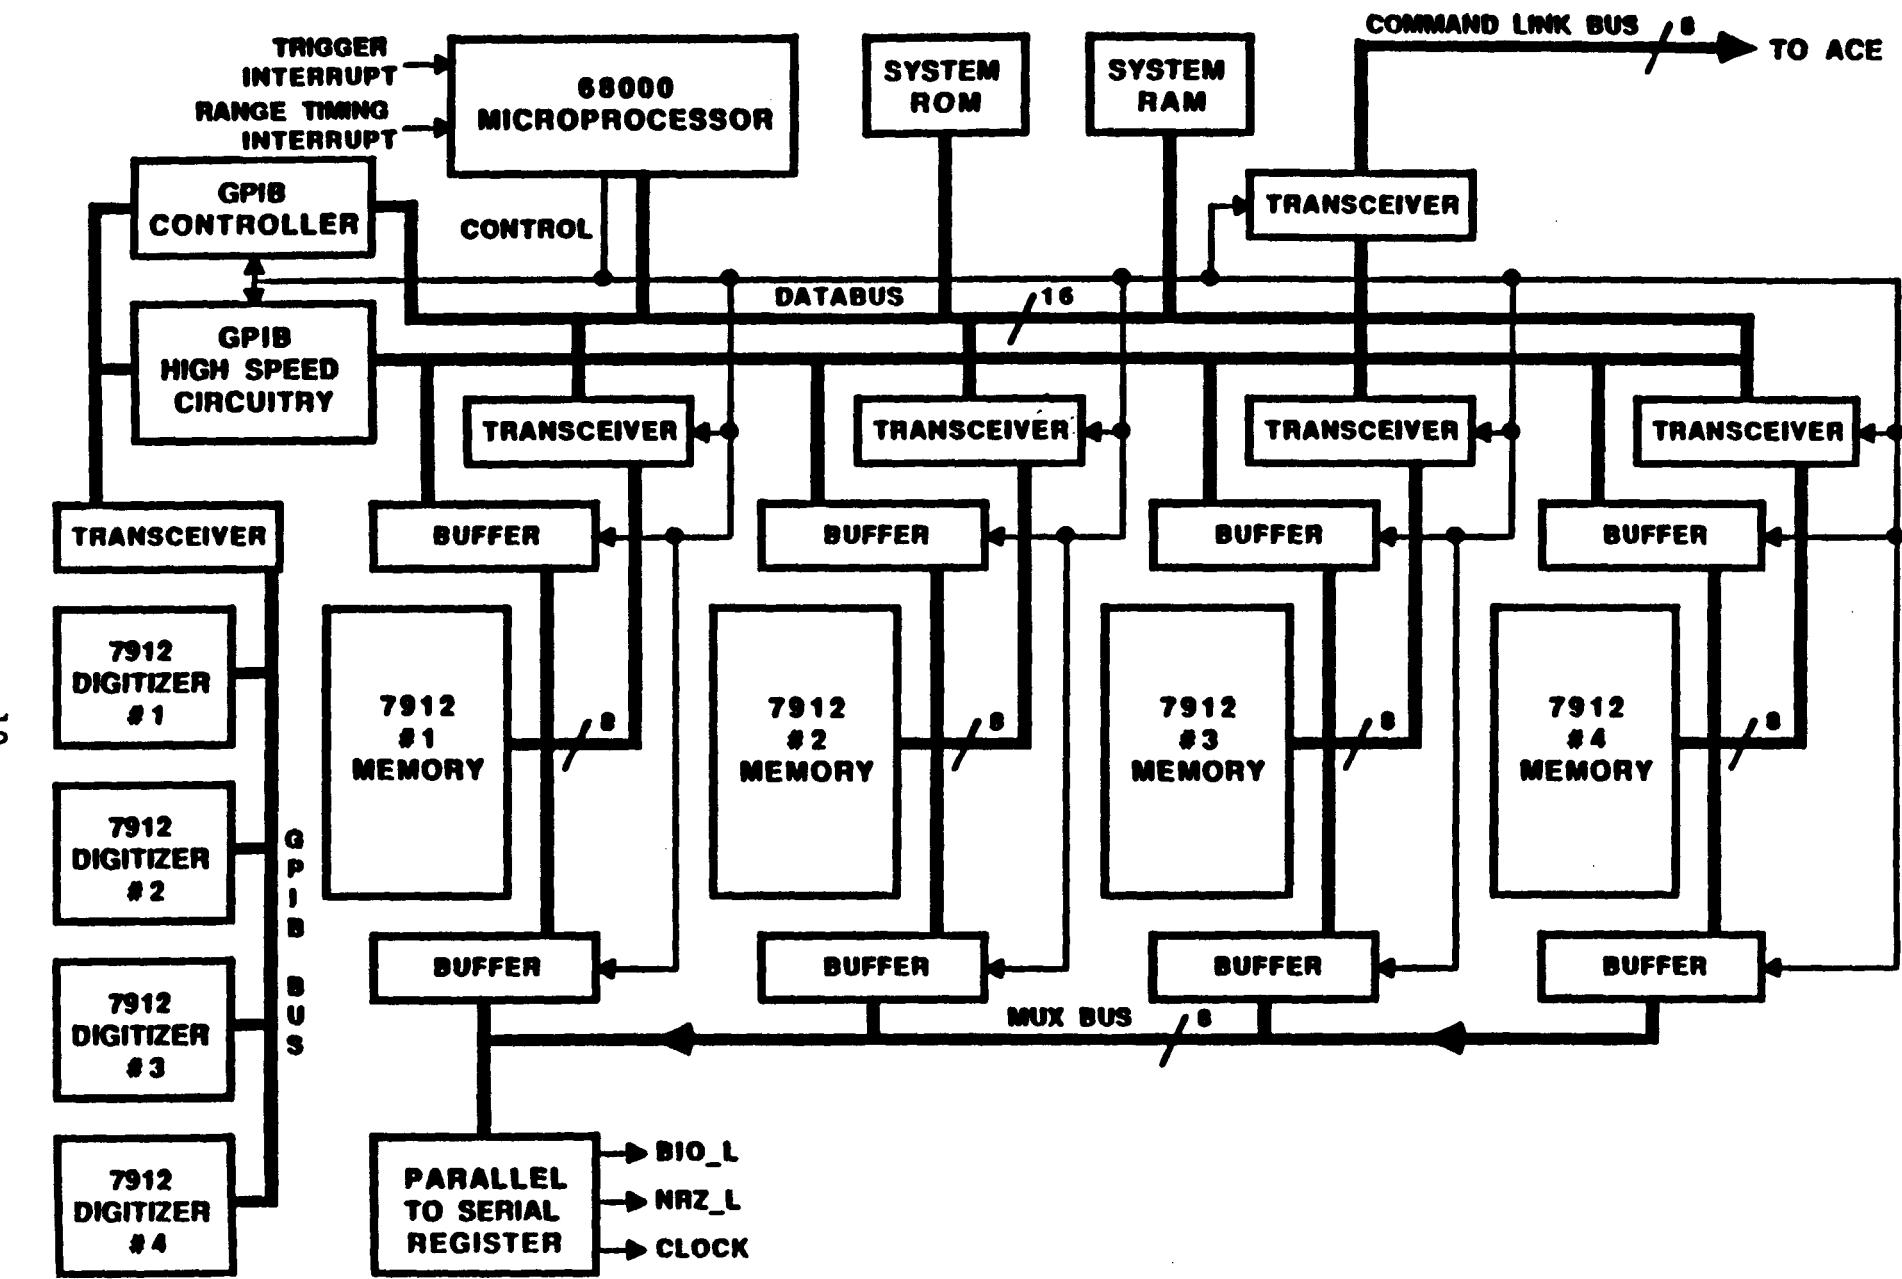

Figure 1. DRC Data Flow in Circuit A
- Four identical but independent circuits. (Figure 1 shows the data flow of one of the four circuits used inside the DRC.)
Description	This section describes how the hardware operates in the DRC. Using Figure 1 will make the information easier to understand.